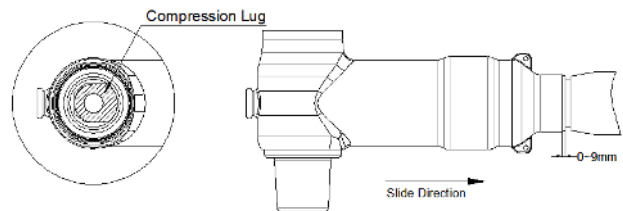

Fig.14
Step 4. Repeat Step 1 to Step 8, prepare cable and install bolted companion coupling (rear) T-body connector. (See Fig. 14)